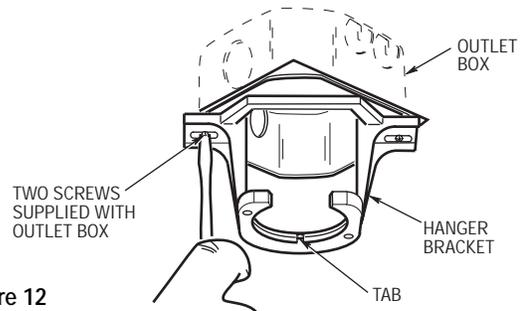
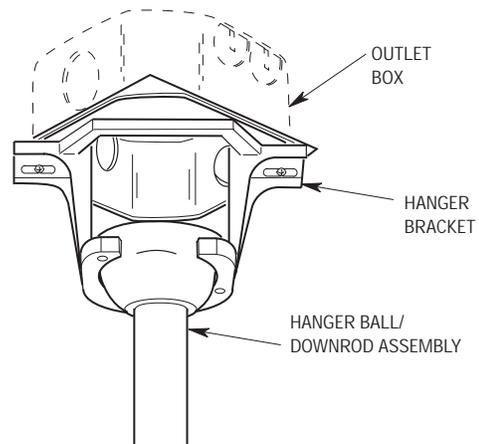

Figure 12
Figure 13
- 1. Securely attach the hanger bracket to the outlet box using the two screws supplied with the outlet box. (Figure 12.)
- 2. Carefully lift the fan and seat the hanger ball/downrod assembly on the hanger bracket that was just attached to the outlet box (Figure 13). Be sure the groove in the ball is lined up with tab on the hanger bracket (Figure 12).